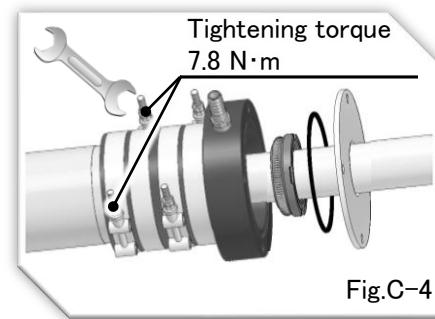

Fig.C-4
7. After adjusting to a proper clearance, tighten the hose band to secure the joint hose to the stern tube. Recommended tightening torque is 7.8 N·m. (See Fig.C-4)